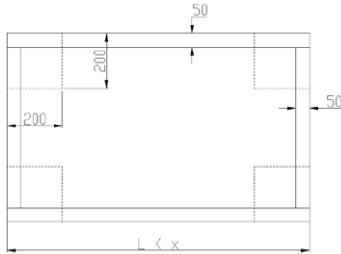
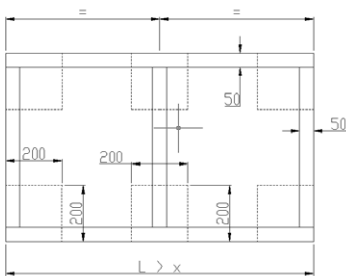

Fig. 16 AHU on framework
Fig. 17 The frame for an air handling unit consisting of one monoblock with support
b) for units (small where feet may be present but with a frame) the support must not be smaller than 200x200mm and located on the outer ends of the frame and in the middle of its length (in place of the central crossbar) **Fig. 16, Fig. 17.**